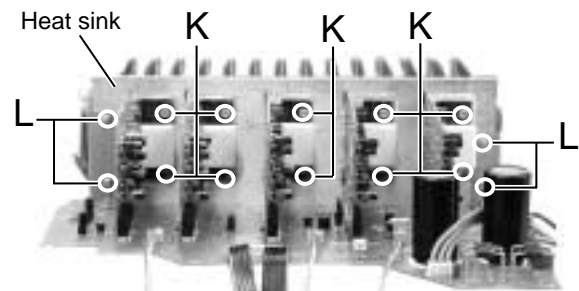

Fig.11
■ Removing the Heat sink (See Fig.11 and 12)